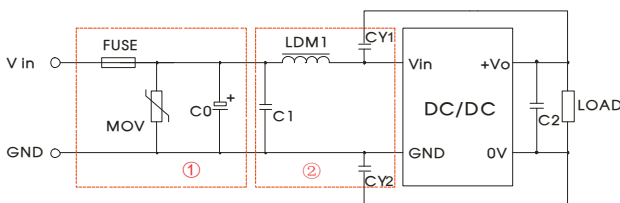

Fig. 3
RE	CISPR22/EN55022 CLASS A (Bare component)/ CLASS B (see Fig.3-② for recommended circuit)
Note: Part ① in the Fig. 3 is for EMS test, part ② is for EMI filtering; parts ① and ② can be added based on actual requirement.